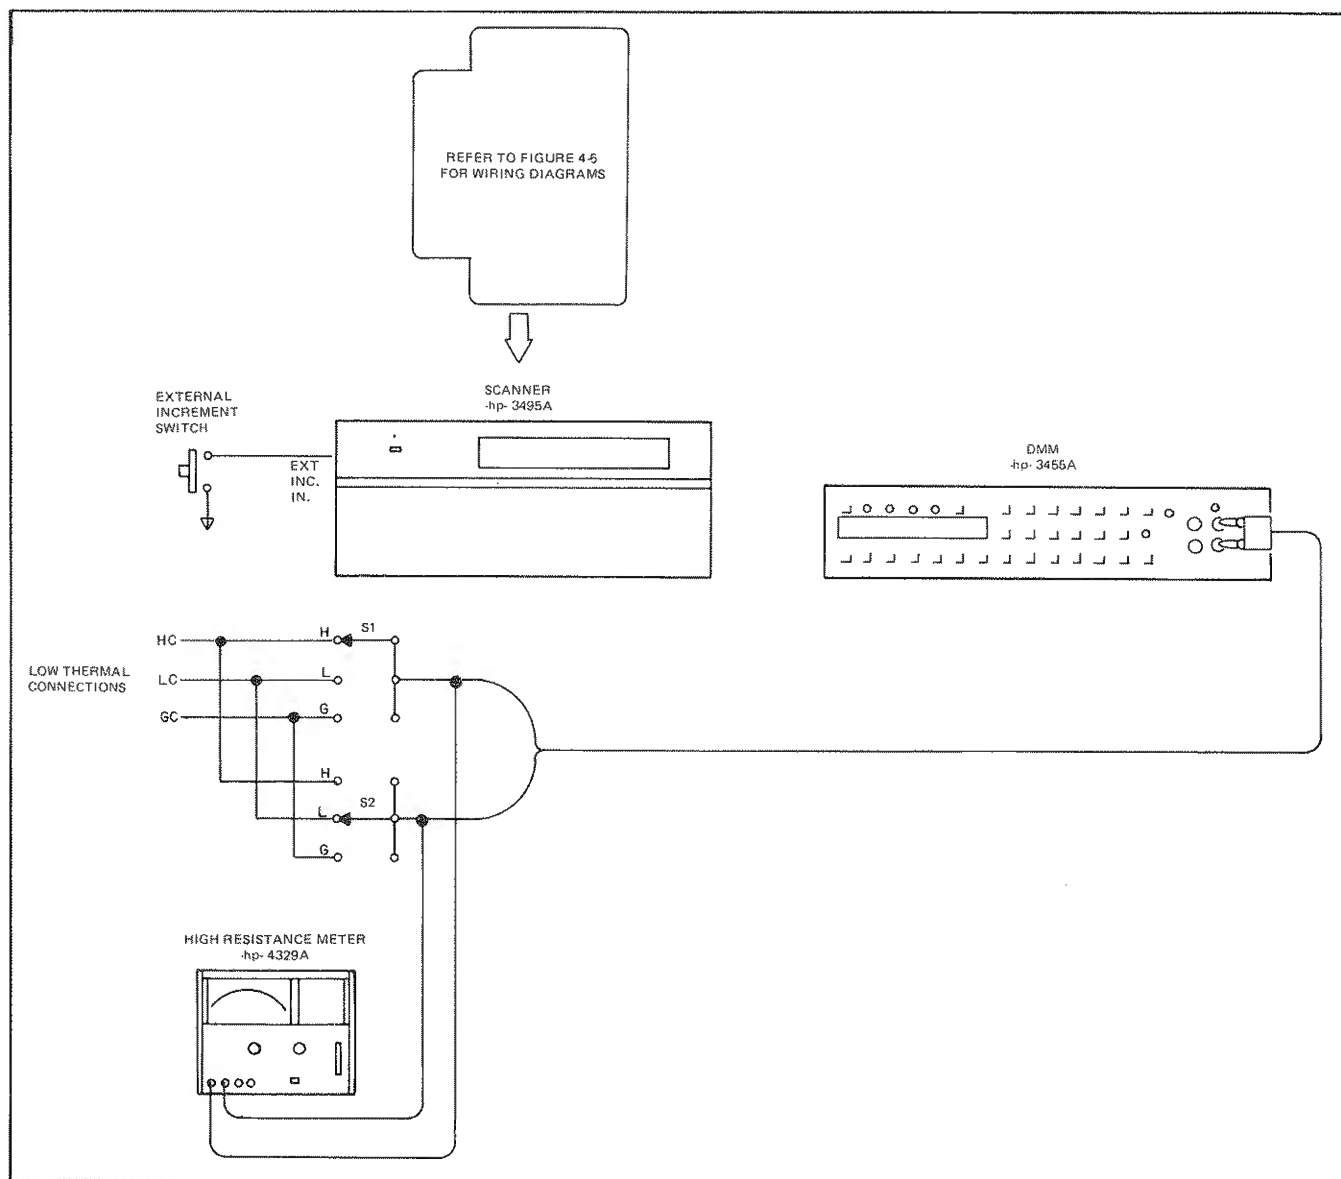

Figure 4-6. Channel Isolation Test Setup.
as determined by the Select Switches S1 and S2 in Figure 4-6.
a. Connect the test setup as shown in Figure 4-6. Use the proper value for R_S as shown in Table 4-2.